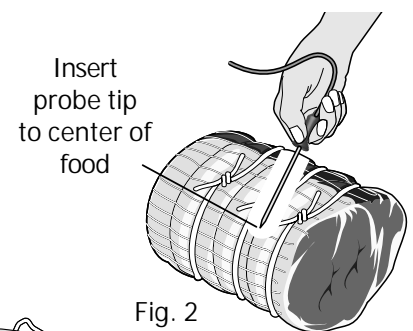

Fig. 2
- Insert the probe so that the tip is centered in the thickest part of the food (see Fig. 2). For best results, do not allow the probe temperature sensor to contact bone, fat, gristle, or cookware.